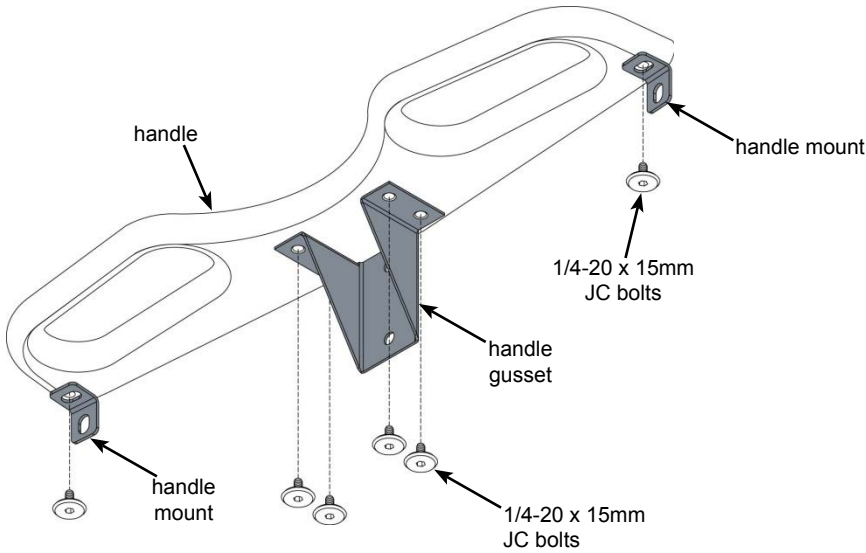

Figure 1
1. Attach the handle gusset and handle mounts to the bottom of the handle using 1/4-20 x 15mm JC bolts as shown in **Figure 1**. Do not tighten completely.